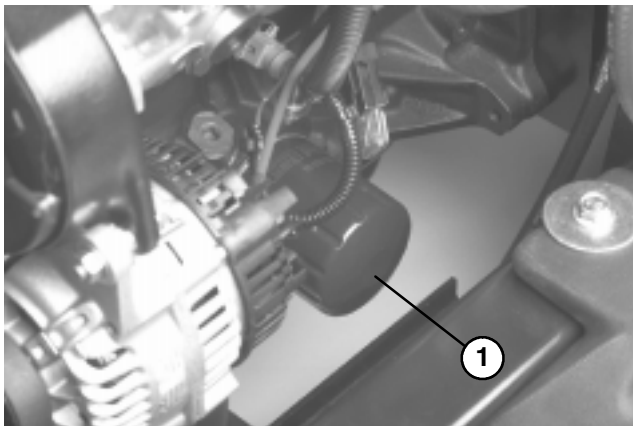

Figure 24
2. Remove oil filter (Fig. 24). Apply a light coat of clean oil to the new filter seal before screwing it on. DO NOT OVER-TIGHTEN.